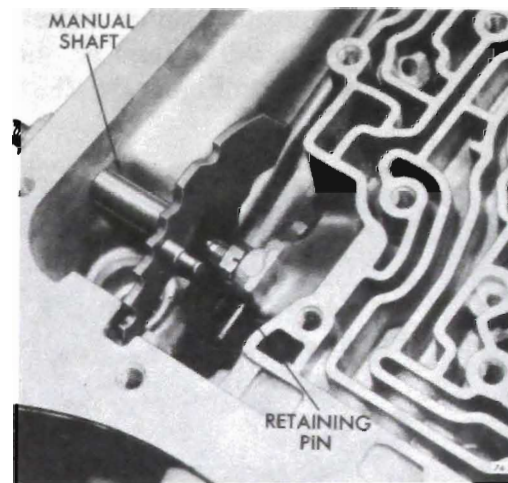

Figure 76-770
6. Install manual shaft retaining pin indexing with groove in manual shaft. See Figure 76-770.